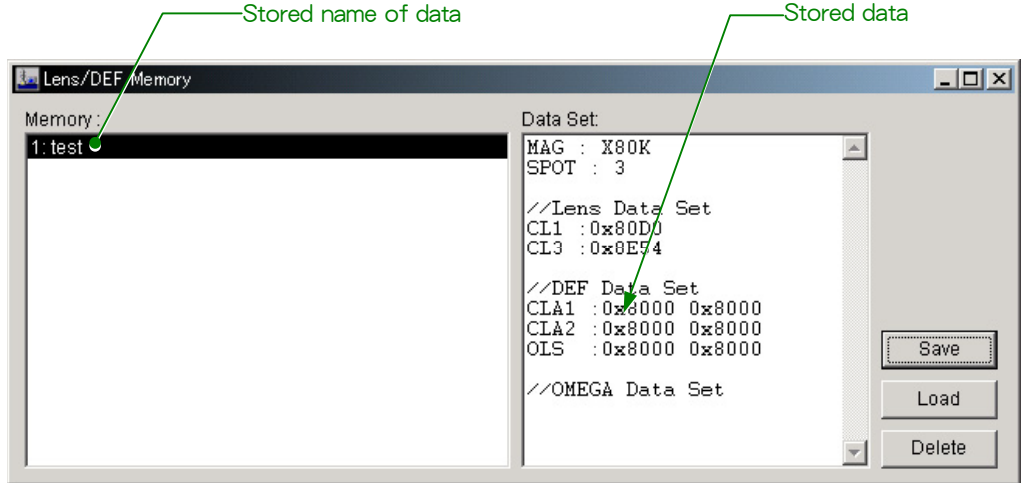

Fig. 5.65 Lens/DEF Memory window(Data Set column)
4. Click on the **OK** button in the **Lens/Def Memory Option** window to save the selected conditions (☞ Fig. 5.65).
(☞ Fig. 5.65)